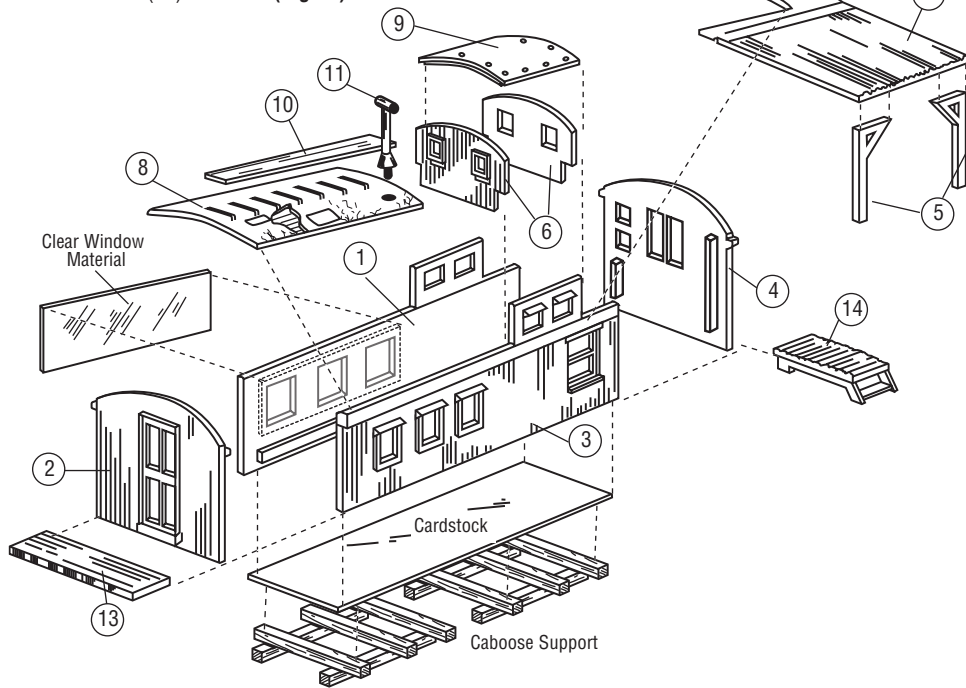

Fig. 1a
3. Glue Parts 6 (2x) to Caboose Assembly (Parts 1-4). Top edges must be flush (**Fig. 1a**).